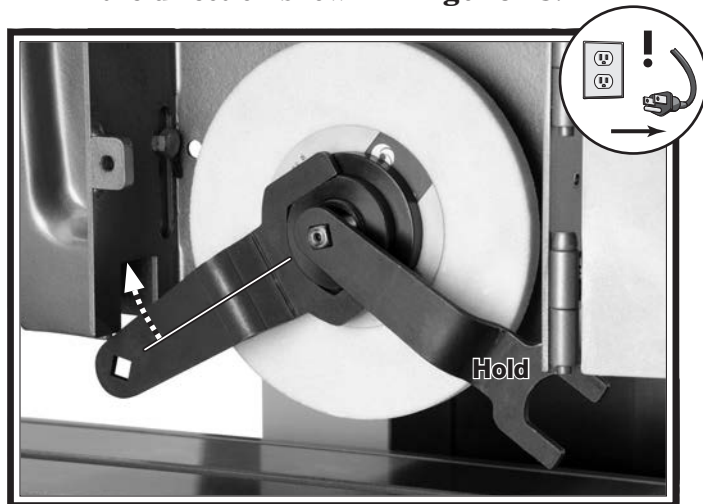

Figure 23. Removing wheel retaining nut.
4. Using the wrenches, loosen the retaining nut in the direction shown in **Figure 23**.